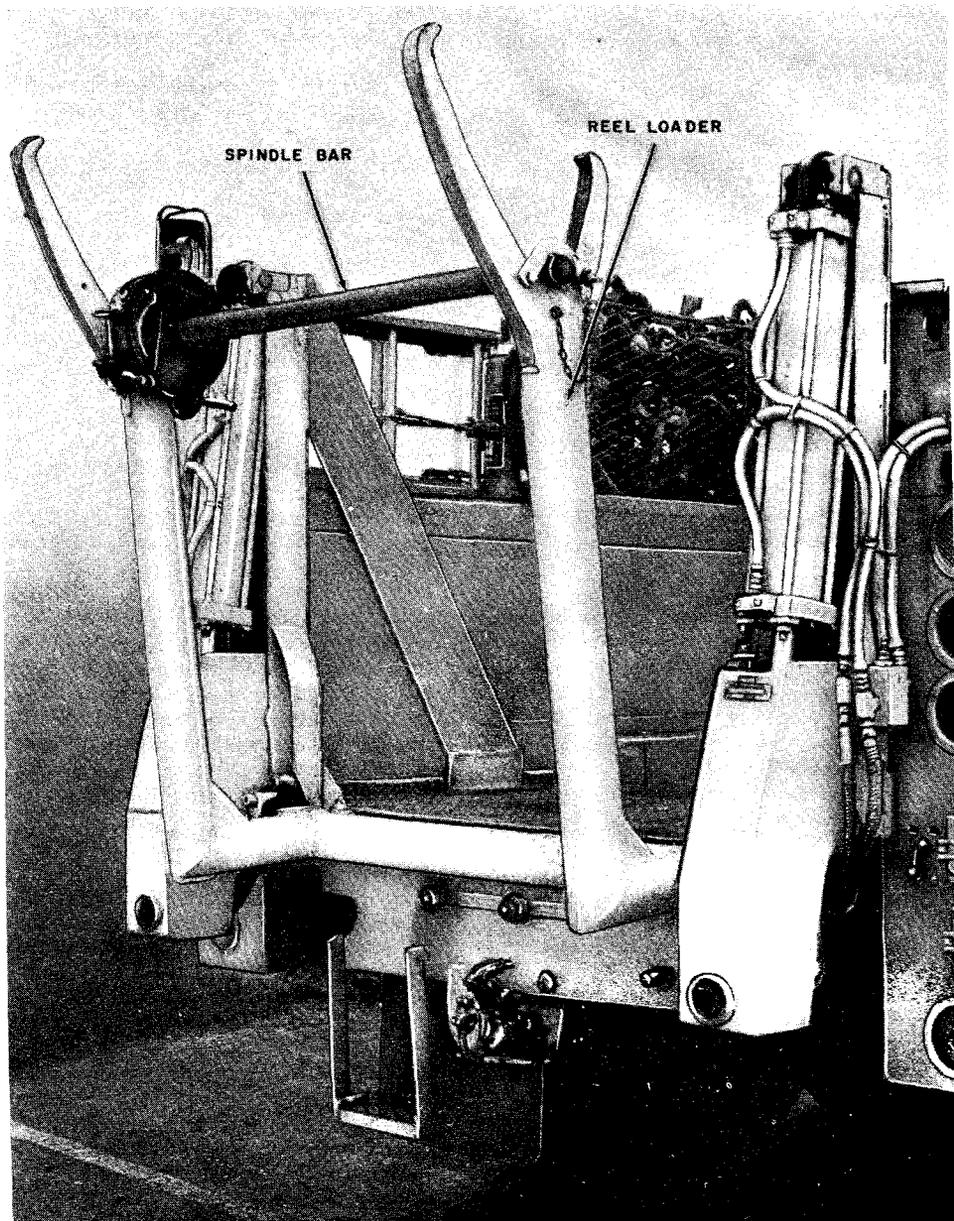
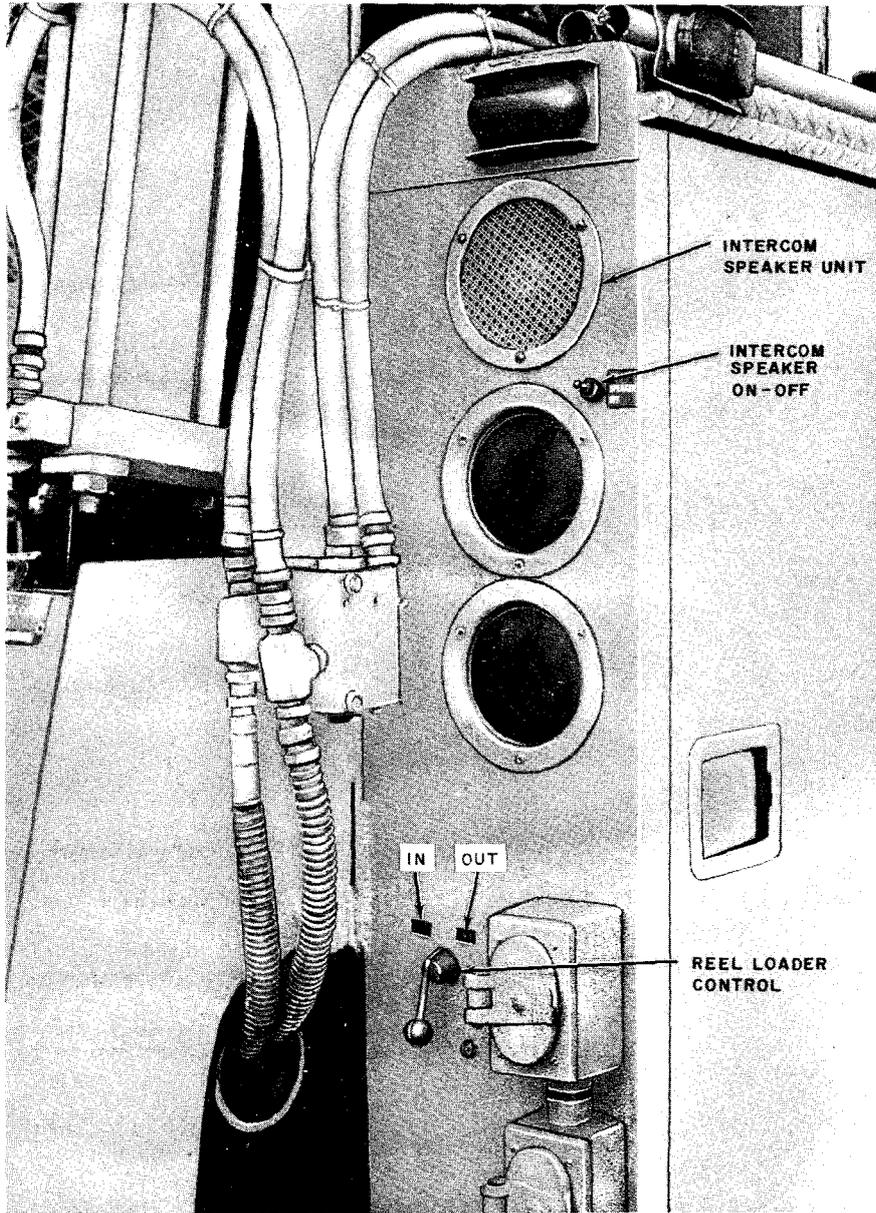

Fig. 6—Reel Loader
Fig. 7—Reel Loader Control
2.06 A hydraulically operated reel loader (see Fig. 6), located on the rear of the truck, will lift reels that measure up to 84 inches in diameter and 36 inches in width (418 reel) and weigh a maximum of 3000 pounds. The reel loader is used for placing reels into the truck bed for transporting and also for carrying reels in the pay out position. However, truck stability must be considered when carrying heavy reels on the loader since excessive weight on the loader will adversely affect steering when the truck is moving.
2.08 The control lever for the reel loader is located on the outside of the left rear panel of the truck body. The reel loader is shown in Fig. 6 and the reel loader control lever is shown in Fig. 7.